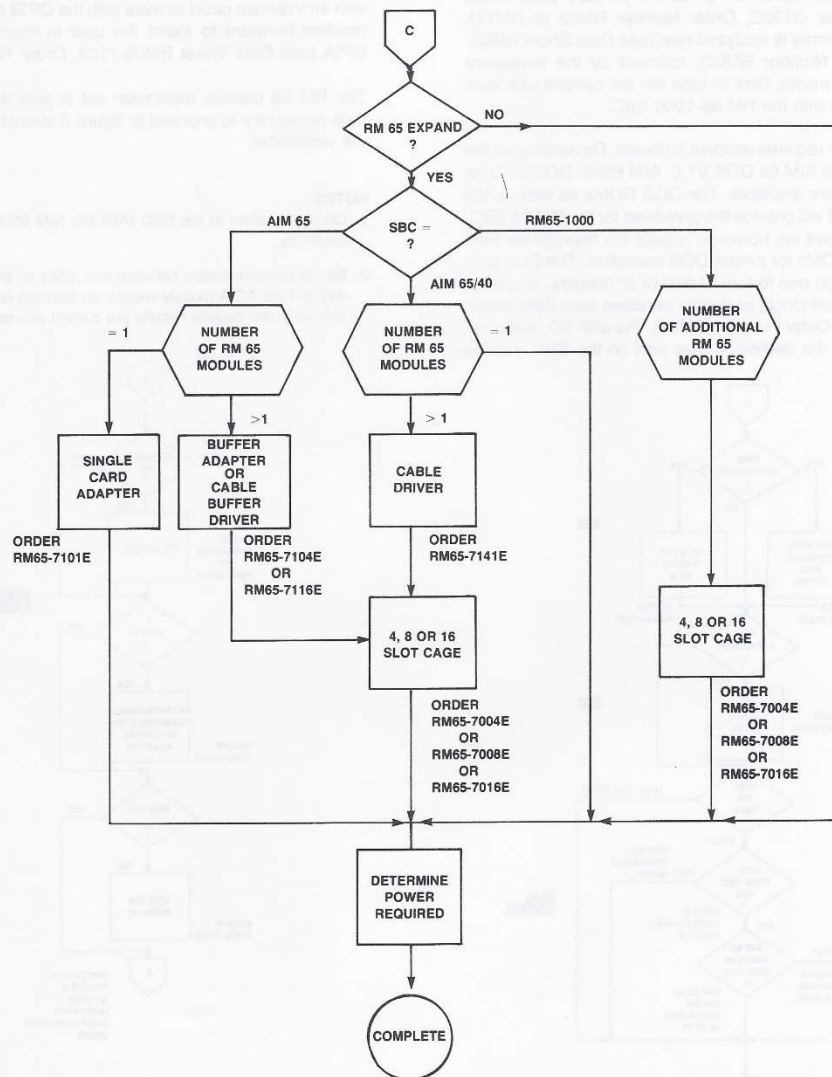

FIGURE 6. System Interface Configuration Guide
The RM 65 module expansion set is now defined and the data necessary to proceed to figure 6 should be entered on the worksheet.
The System Interface Configuration Guide in Figure 6 provides the decision paths needed to interface the expansion modules with the development or dedicated system. After analyzing the application and identifying which expansion modules are required, the CPU-to-module interface must be defined. The RM65-1000 SBC inserts directly into the card cage. The AIM 65 can interface to one expansion module with the single card adapter or to a card cage with the
The RM 65 expansion modules have been defined. The selection process continues with the RM 65 Expansion Interface Configuration Guide, figure 6.
10. Referring to the first two decisions in figure 6, RM 65 Expansion is required and the SBC is the AIM 65.